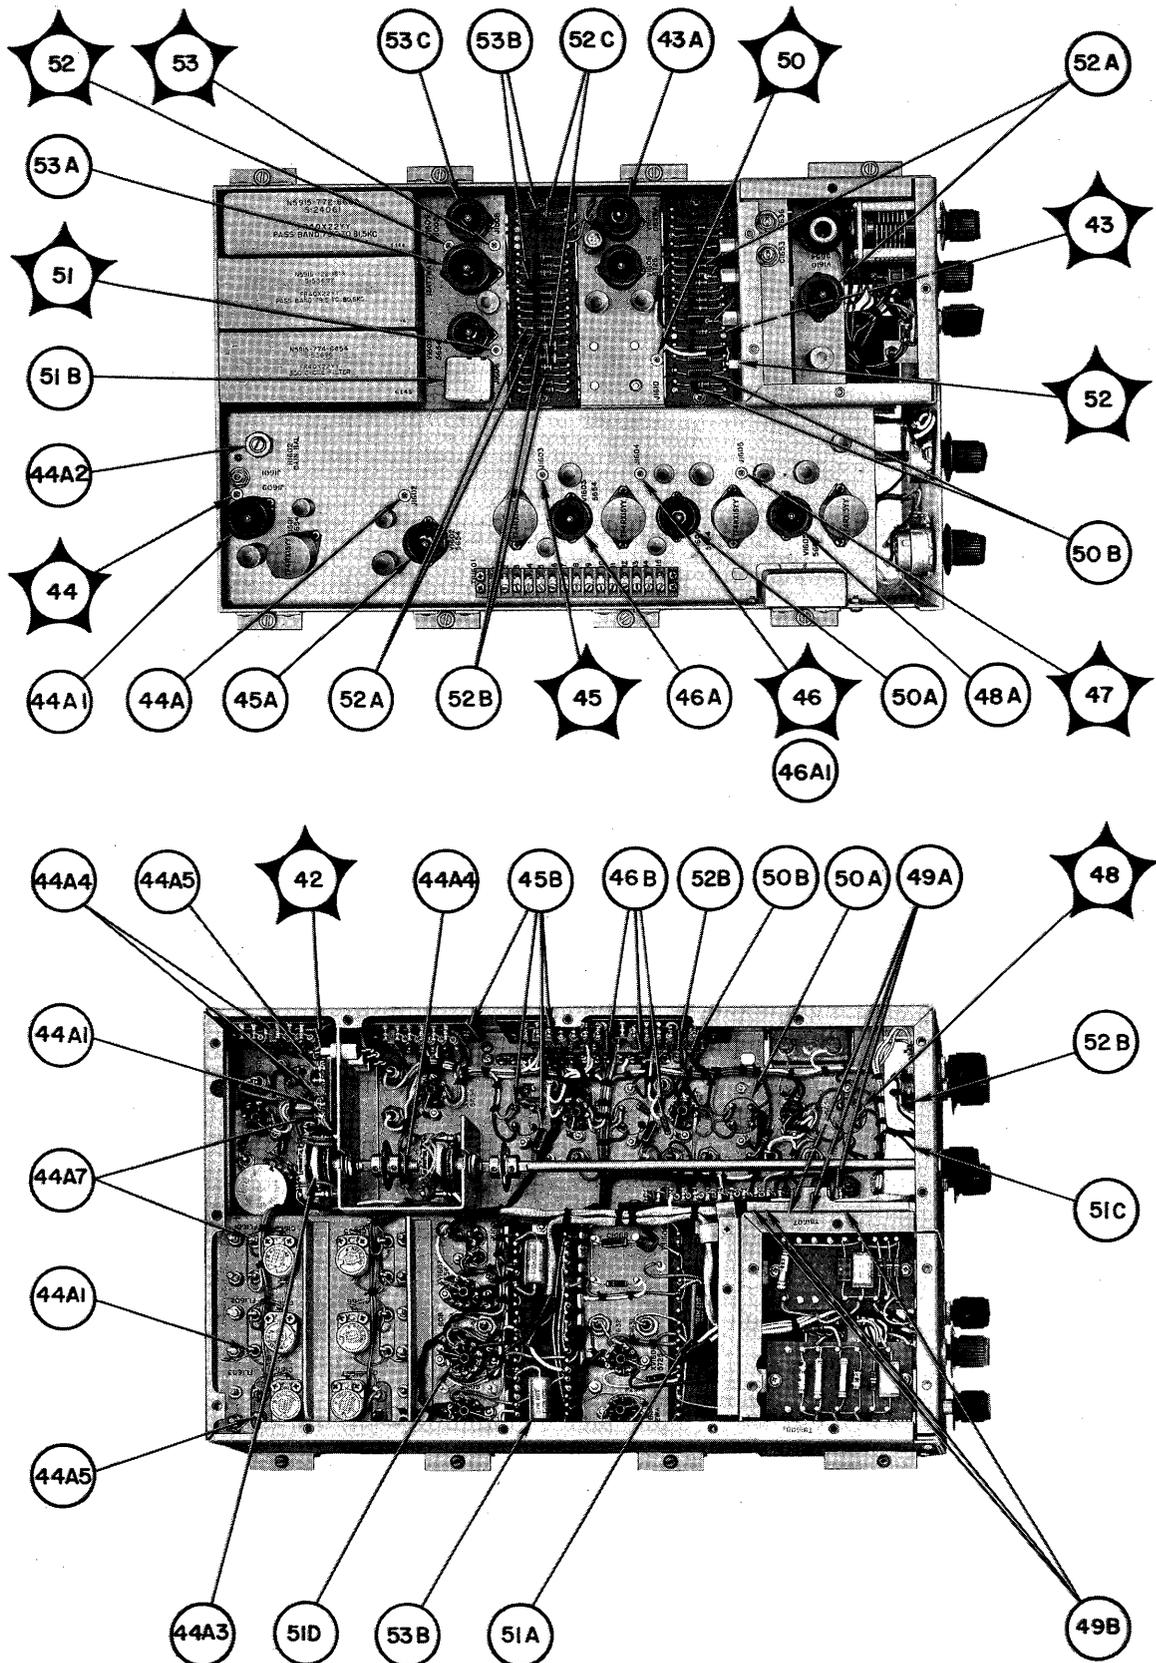

Figure 5-34. AM Detector-Amplifier, Location of Test Points
b. ACCESS.— The AM detector-amplifier is located in the upper demodulator deck. Figure 5-33 shows the location of parts and figure 5-34 the location of test points.
- (1) Seating of tubes V1601 through V1611 in their sockets
- (2) Cable connections at J1601 and TB1601
- (3) All soldered connections at chassis feed-through terminals
- (4) Normal mechanical function of the following demodulator panel controls: